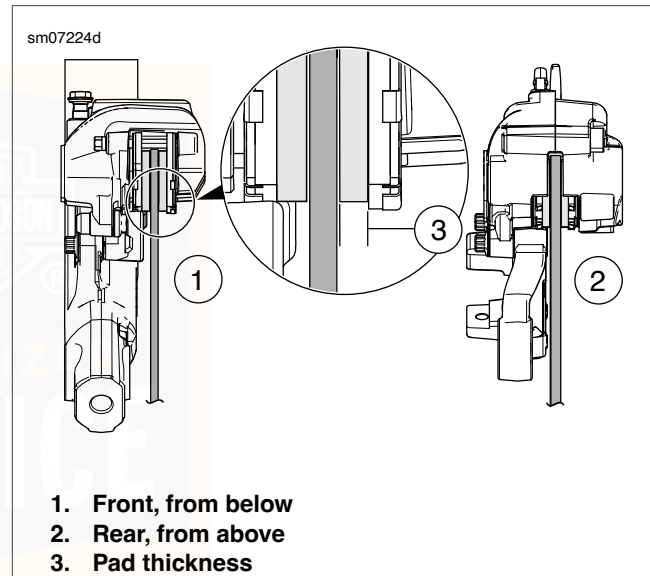

Figure 55. Brake Pad Thickness
2. See Figure 55. Measure the thickness of the brake pad friction material. For rear brakes, place the ruler against the brake disc through the space alongside the caliper.